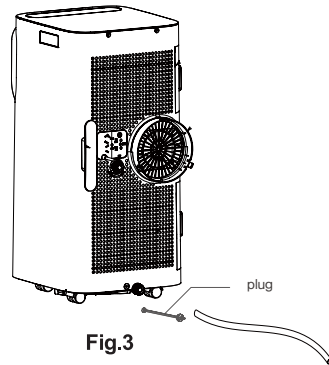

Fig.3
- 3) As shown in Fig. 3, connect drain hose well (only for using ELL ATMOS);
- If water splash motor is damaged, continuous drainage can be used. To connect the drain hose to the bottom drain hole (Fig.3), the unit can also work well.